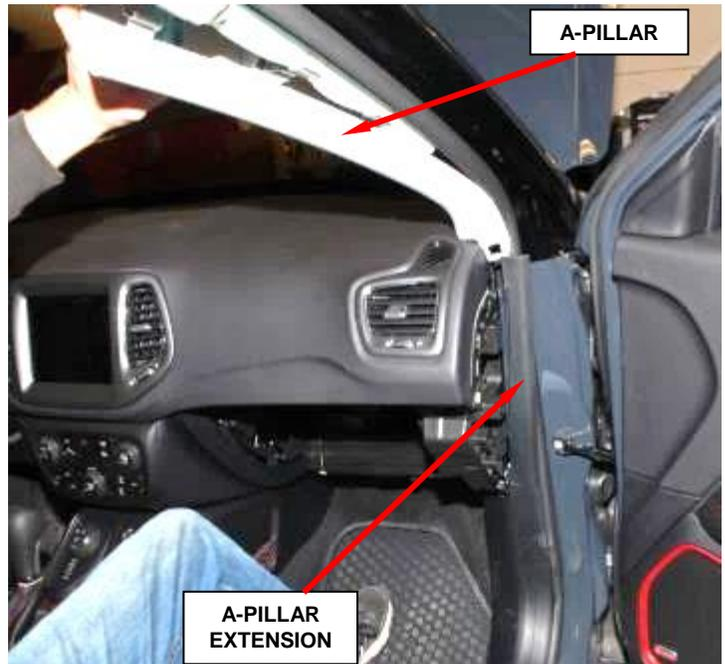

Figure 2 – Right Side A-Pillar
4. Using a trim stick, remove the right-side A-pillar and A-pillar extension panel (Figure 2).
46. Using a trim stick, remove the left-side A-pillar and A-pillar extension panel. Refer to Figure 2.